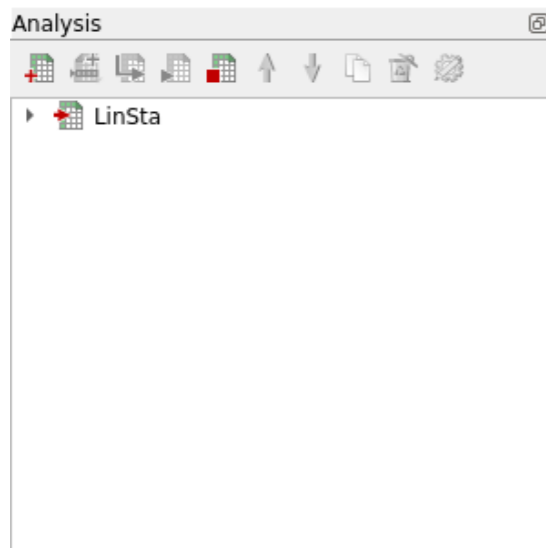

Figure 18: Analysis window
- Analysis browser** → Analysis1  → Rename  → LinSta [Fig. 18]